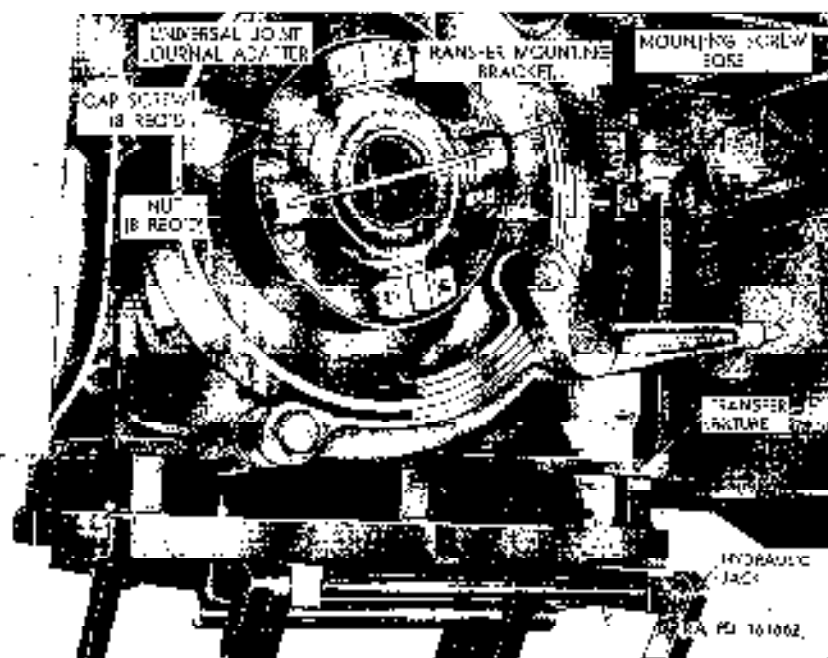

Figure 294. Rappelling transfer with hydraulic jack.
- (6) Remove cotter pin from end of control-rod-yoke pin (fig. 294), remove yoke pin, and remove control rod from shifter shaft.